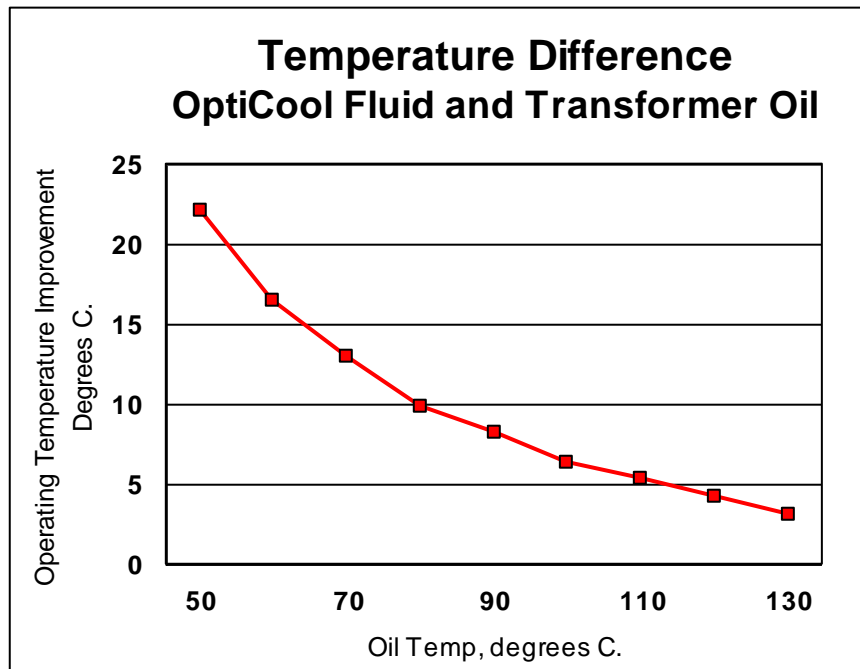

Figure 1
The calculations are shown on the in the graph below (Figure 1). The data shows the difference in winding temperature (W) over oil temperature (O) for transformer oil and OptiCool fluid. One can see that the difference between the two fluids decreases as the operating temperature of the unit is increased.